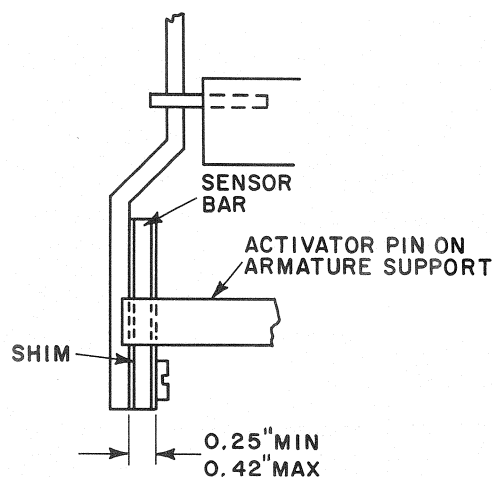

Fig. 40. Over top of activator pin and sensor bar
2. The engagement of activator pin on armature support with sensor bar should be such that an overlap of .25 inch to .42 inch exists. If necessary, shims may be used to obtain this dim. (See Fig. 40.)